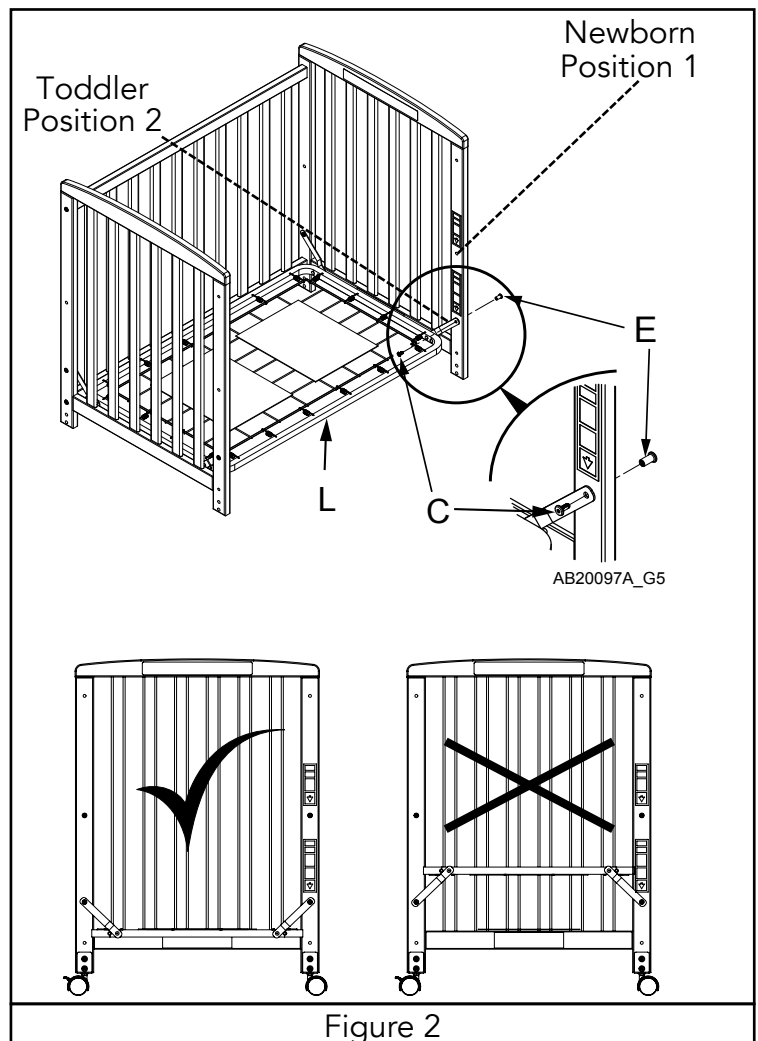

Figure 2
Tighten all bolts securely with Allen Wrench (A). To adjust the height of the Spring (L), unthread the Allen Bolts (C) and move the Spring (L) to the other height shown in Figure 2. Then follow the above process to attach Spring (L) to the new location.
See Figure 2.